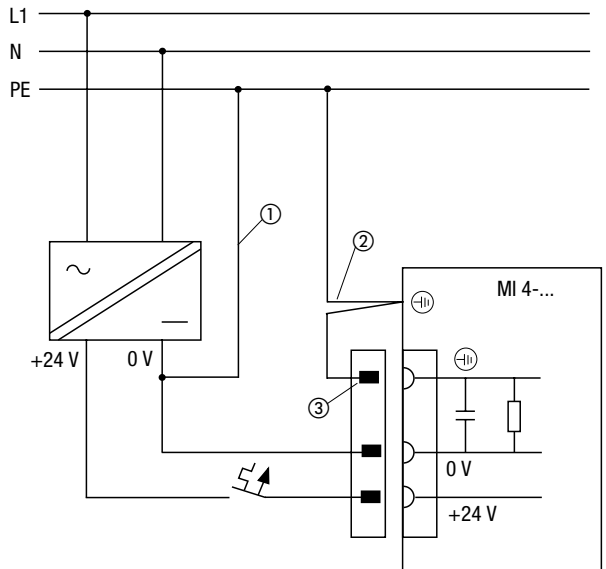

Figure 1: Connection diagram
① **Earthing the 0 volt cable (see Fig. 1)**